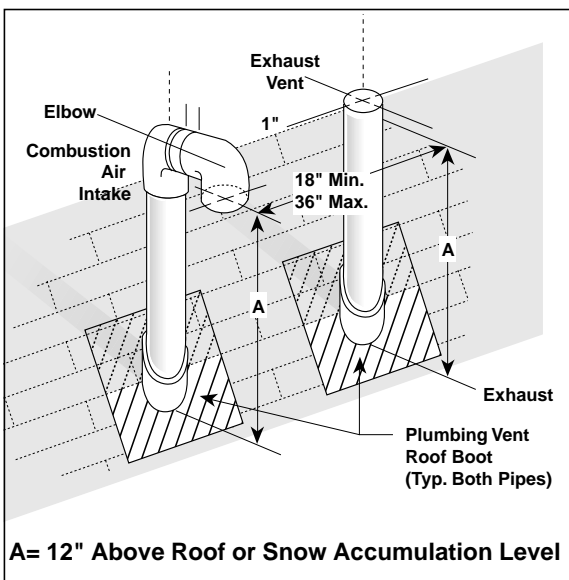

Figure 19. Vertical Vent Termination
Figure 19 shows the proper installation and clearances for vertical vent termination. The roof penetration must be properly flashed and waterproofed with a plumbing roof boot or equivalent flashing. Termination spacing requirements from the roof and from each other must be per Figure 19.
- The termination clearances shown in Figure 19 are maintained.